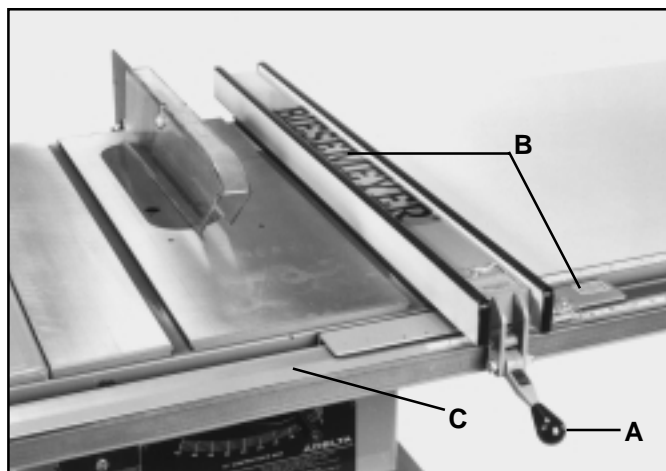
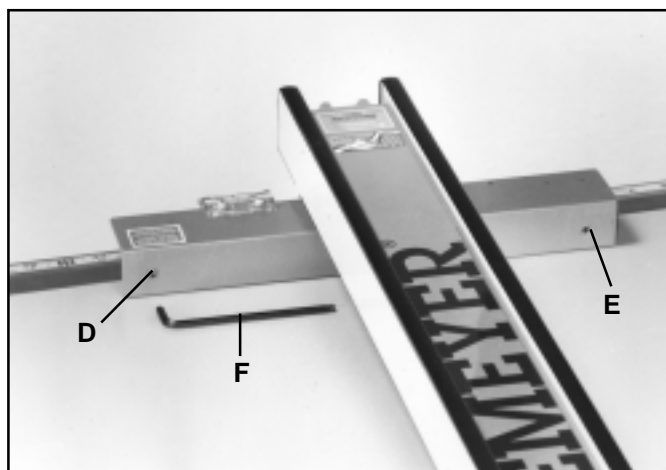

Fig. 31
Fig. 32
When the fence locking handle (A) is pushed to the down position, as shown in Fig. 31, the fence assembly (B) should be completely clamped to the guide tube (C). If the fence assembly (B) is not completely clamped to the guide tube (C) when the handle (A) is pushed down, as shown in Fig. 31, lift up handle (A) and raise fence assembly (B) up off the guide tube (C). Slightly tighten the two adjusting screws (D) and (E) Fig. 32, using the 3/16" allen wrench (F), not supplied. **Screws (D) and (E) Fig. 32, should be tightened an equal amount.** Replace fence onto the guide tube and re-check to see if the fence assembly (B) Fig. 31, is completely tightened to the guide tube (C) with the locking handle (A) pushed down. Adjust further if necessary. **IMPORTANT: AFTER ADJUSTING THE CLAMPING ACTION OF THE FENCE LOCKING HANDLE, CHECK TO SEE IF THE FENCE IS PARALLEL TO THE MITER GAGE SLOT AND ADJUST IF NECESSARY.**